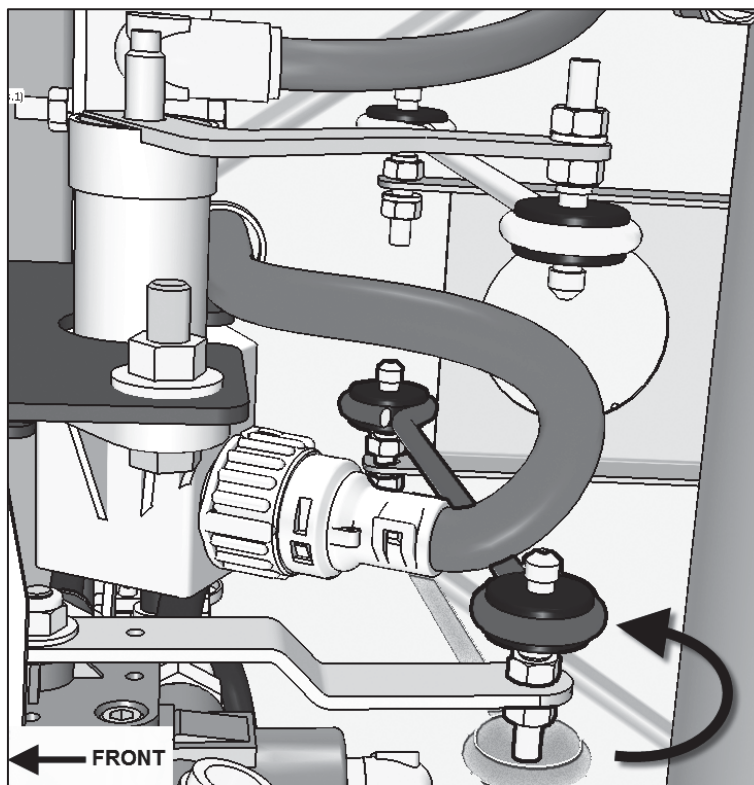

Figure 3 : Flip upper and lower connection of control rod.
4. Flip the rod over to the opposite side of the control lever and bracket tab above. (Arrow, Fig. 3)
5. Re-assemble hardware. (Fig.3)